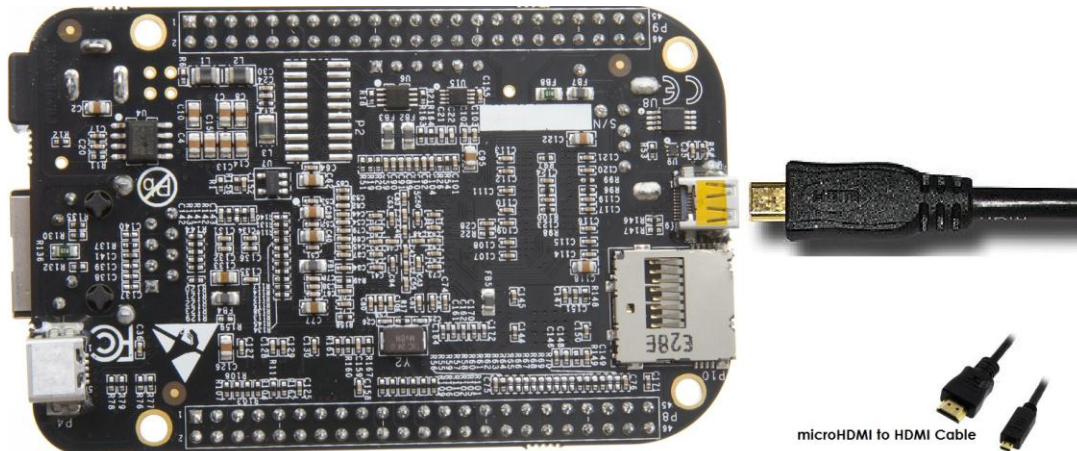

Figure 14. Connect microHDMI Cable to the Board
5. The cable needed to connect to your display is a microHDMI to HDMI. Connect the microHDMI connector end to the board at this time. The connector is on the bottom side of the board as shown in **Figure 14** below.